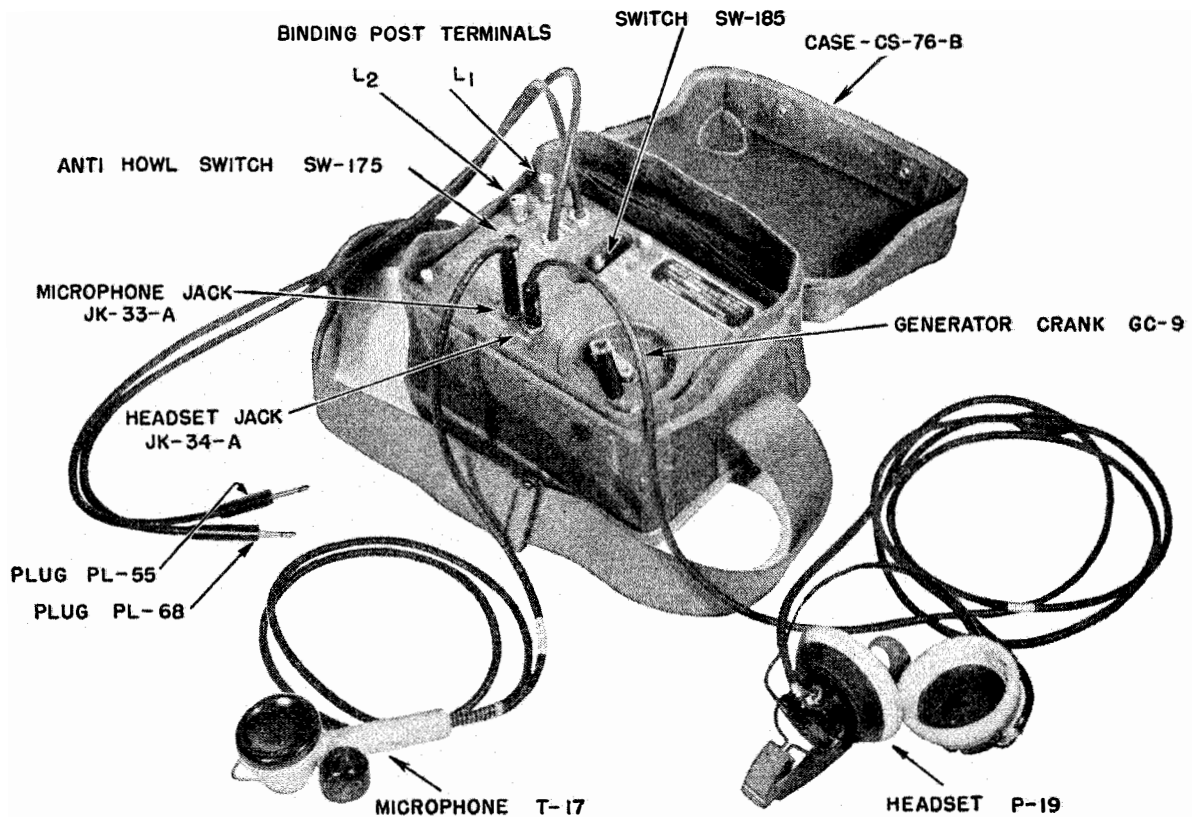

FIG. 5. REMOTE CONTROL RM-29-(*)
i. *Remote Control Unit RM-29-(*):*— (FIG. 5)